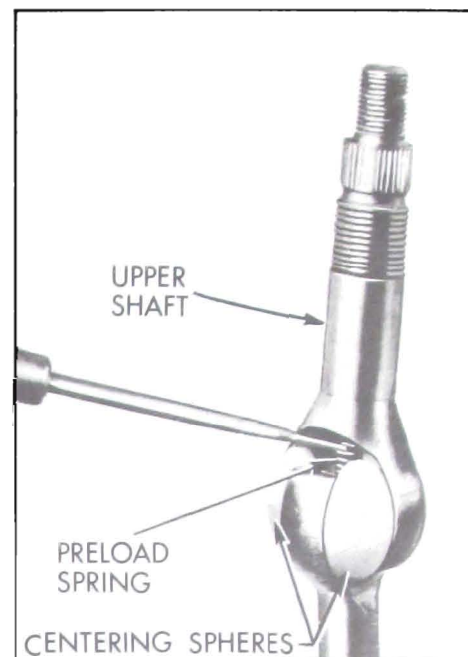

Figure 8-84—Removing Joint Preload Spring
2. Using a narrow bladed screwdriver, compress joint preload spring enough to remove from upper shaft, then remove spring from centering spheres. See Figure 8-84.